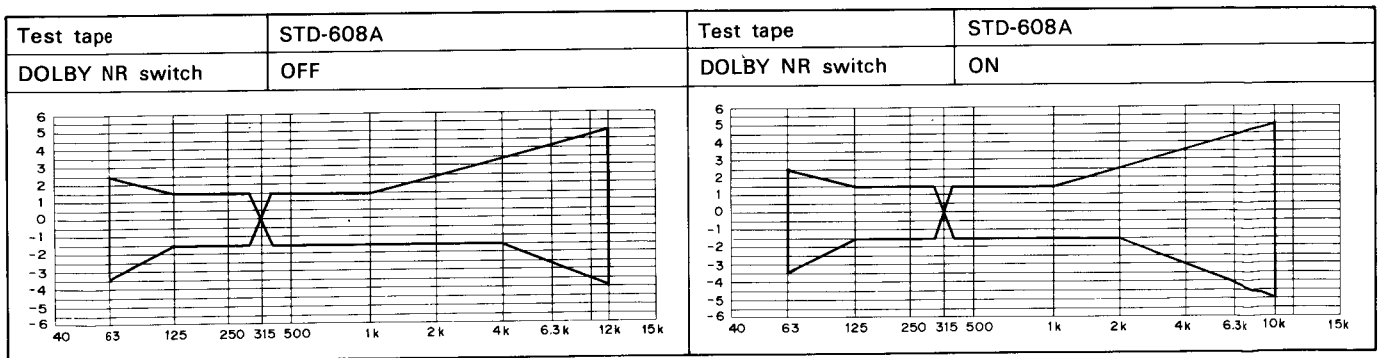

Fig. 11-8 Recording & playback frequency response tolerance zone (NORM)
• Change the test tape and the DOLBY NR switch position and check that the frequency response zone indicated in Fig. 11-8, 9 is satisfied.